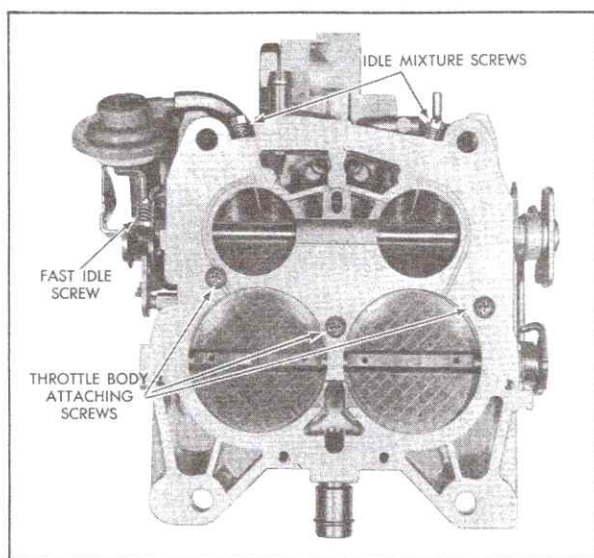

Fig. 6-90 Throttle Body
17. Turn bowl over and remove throttle body by removing throttle body to bowl attaching screws using a Phillips screwdriver. See Fig. 6-90.